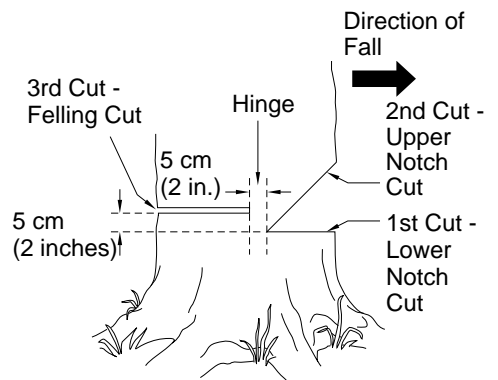

Figure 12 - Felling A Tree
A properly placed felling notch will determine direction tree will fall. Place felling notch on side of tree in direction you want tree to fall (see Figure 12, page 11). Follow directions below to create a felling notch.
1. Make lower notch cut as close to ground as possible. Hold saw so guide bar is horizontal. Cut 1/3 the diameter of tree trunk (see Figure 12, page 11). *Note:* Always make this horizontal lower notch cut first. If you make this cut second, tree can pinch chain or guide bar.
2. Start upper notch cut the same distance above first cut as first cut is deep. *Example:* If lower notch cut is 20 centimeters deep (eight inches), start upper notch cut 20 centimeters (eight inches) above it. Cut downward at 45° angle. The upper notch cut should meet end of lower notch cut (see Figure 12, page 11).
1. Make felling cut five centimeters (two inches) higher than lower notch cut and on opposite side of tree (see Figure 12, page 11). Keep felling cut parallel to lower notch cut.
- ⚠ WARNING:** Do not cut all the way through tree. Leave about five centimeters (two inches) of tree diameter uncut directly behind felling notch (see Figure 12). This uncut portion acts as a hinge. The hinge helps keep tree from twisting and falling in wrong direction.